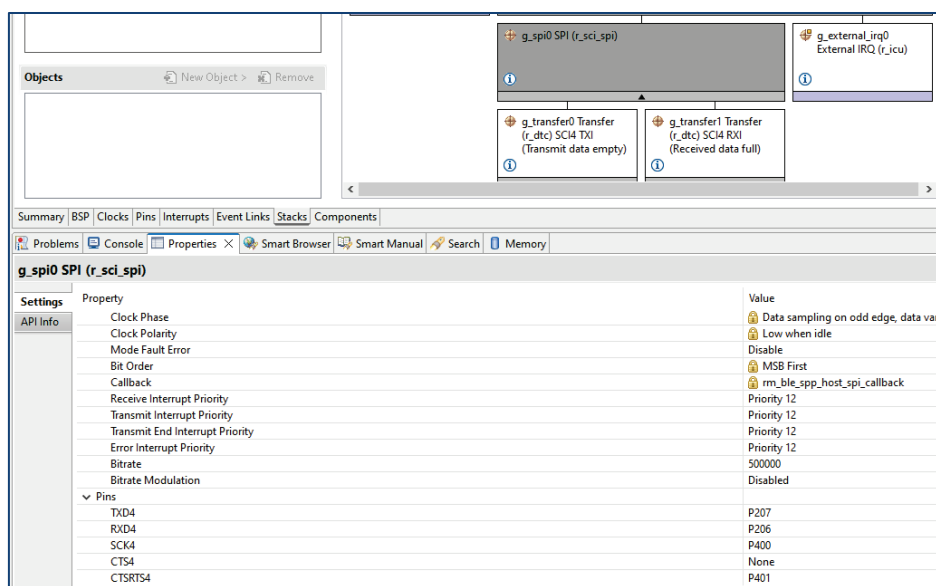

Figure 27. SPI Module Properties – Pin Assignments
2. Change the following SPI Configuration Properties in the properties window as in Figure 26 and Figure 27.